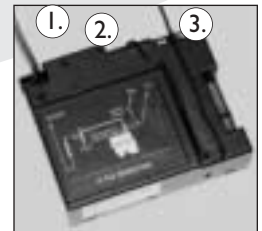

fig. 24
*Make sure the aerial is not too close to the ignition wire or the high-voltage transformer (under the cover). This could damage the receiver (see fig. 24)*
It is also possible to ignite the heater manually if necessary. To do this, remove the glass pane. Turn button A (fig 24) to MAN. Now, poking a pen or screwdriver etc. through the hole in button A, press the coil. The pilot-light burner will now fill with gas and can be ignited with matches or a lighter. After 10 seconds you can release the coil and the pilot light will stay alight. Replace the glass window frame